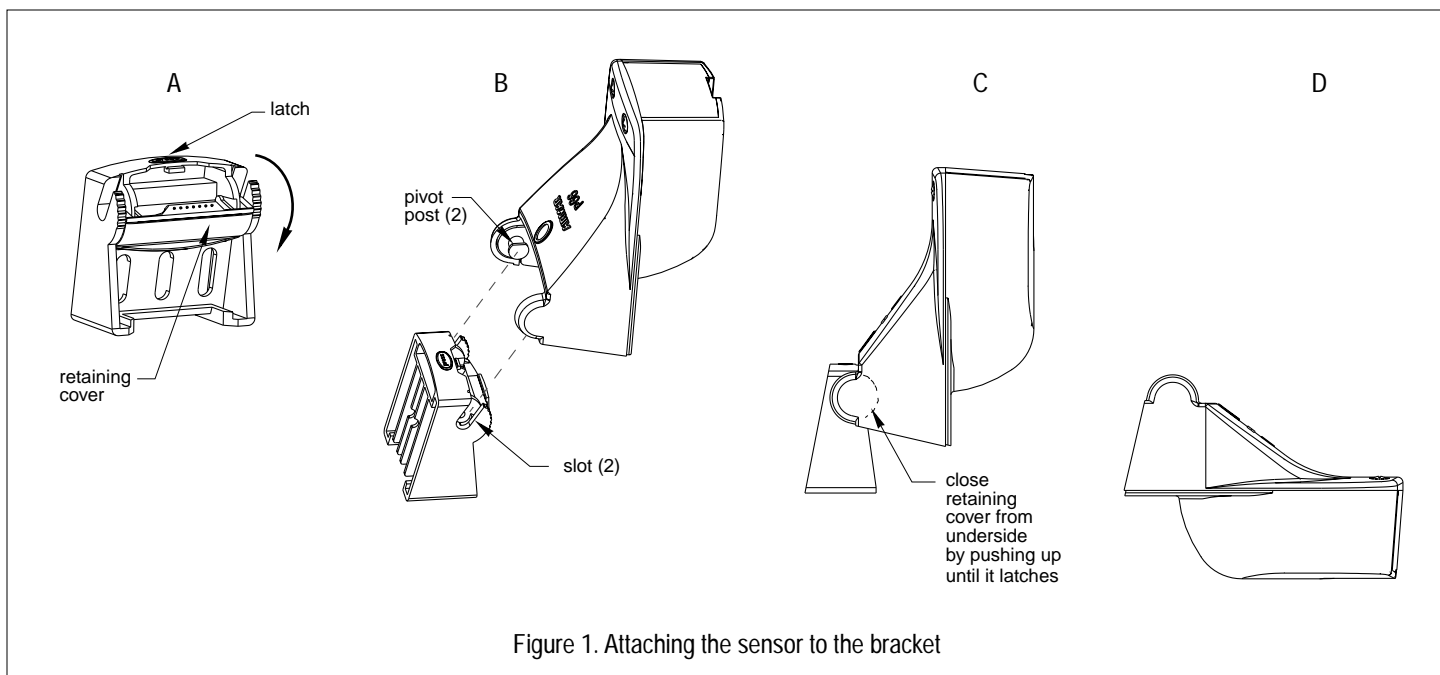

Figure 1. Attaching the sensor to the bracket
1. If the retaining cover near the top of the bracket is closed, open it by depressing the latch and rotating the cover downward (see Figure 1-A).
2. Insert the sensor's pivot posts into the slots near the top of the bracket. Push down until they click into place (see Figure 1-B and C).
3. Close the retaining cover **before** snapping the sensor down. Reach between the underside of the bracket and the sensor to push up on the retaining cover until it latches (see Figure 1-C).
4. Rotate the sensor downward until the bottom snaps into the bracket (see Figure 1-D).